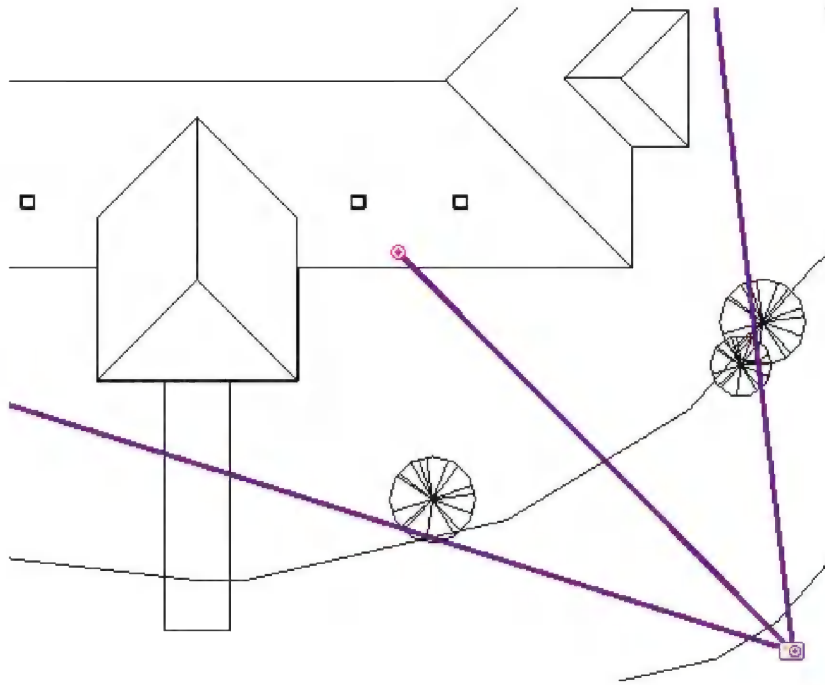

FIGURE 13-2.15 Level 1 with trees added
34. Place three trees as shown in **Figure 13-2.15**. (You will make one smaller in a moment.)